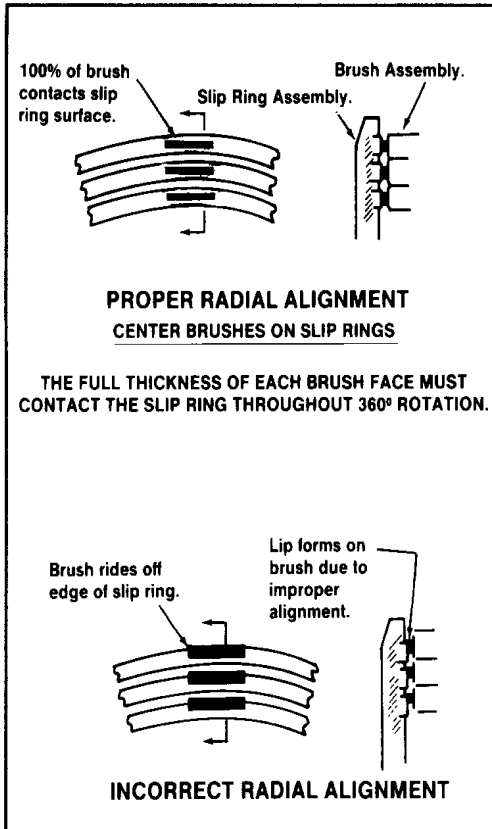

Figure 8 - Radial Brush Alignment
1. Radial alignment of the modular brush assembly to the slip assembly is crucial to de-icing system operation. The brushes must contact the slip rings throughout 360 degrees of slip ring rotation. Angular fore and aft alignment prevents side loading and premature wear of the brushes and brush modules. Figures 8 & 9 illustrate correct and incorrect alignment.
- v. Connect receptacle to bracket, install modular brush assembly on the aircraft, and reconnect engine wire harness to receptacle plug. Check brush alignment per Figures 8 & 9.
- h. Install modular brush assembly on aircraft and connect engine wire harness to receptacle plug. Check brush alignment per Figures 8 & 9.